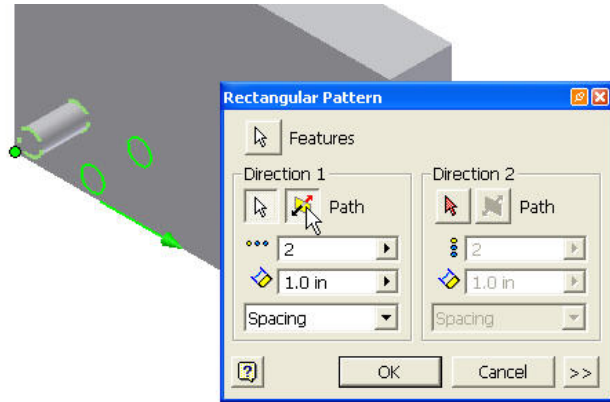

Figure 69
- Notice the direction that the pattern is going to be copied. To change the direction click on the Path button to switch the direction of pattern to the right as shown in Figure 69.